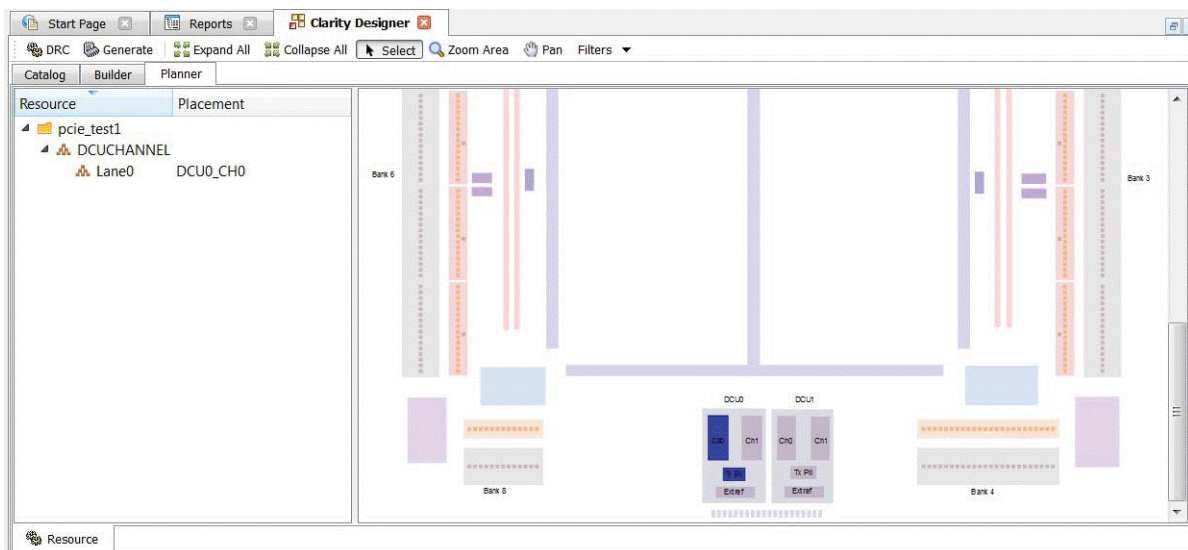

Figure 4.8. Clarity Designer Placed Module
2. The IP core instance may now be placed in the desired location in the ECP5 DCU. Drag the instance of associated IP SERDES lanes entry from the Planner tab to the Clarity Designer Placement tab. Once placed, the specific IP core placement is shown in the Configured Modules tab and highlighted in the Placement tab as shown in Figure 4.8.